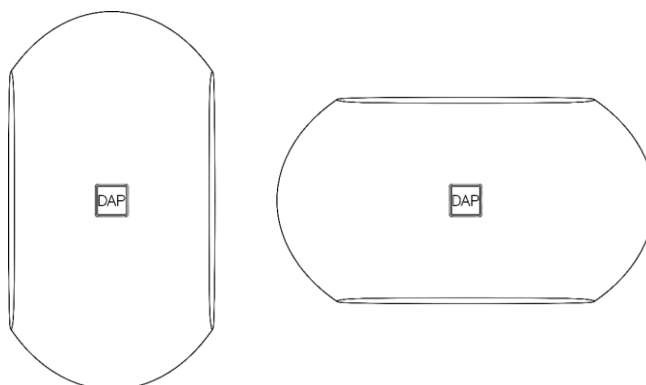

Fig. 23
- 04) Rotate the **ball-joint (13)** to set the device in a vertical or horizontal orientation (Fig. 23). The ball-joint rotation range is 90°.